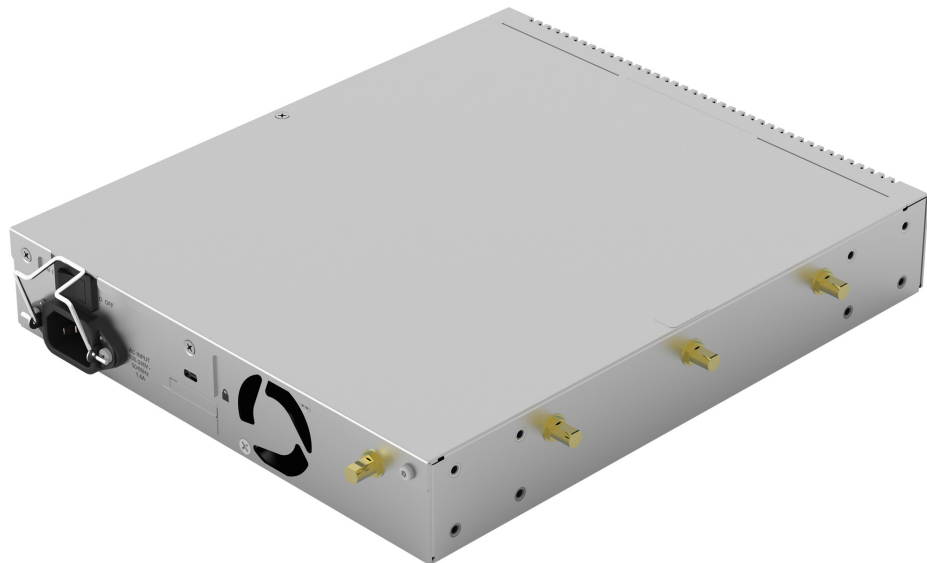

Figure 20. Antenna connectors
Four connectors are available around the outside of the unit to connect the antennas. These connectors are type SMA Jack (F) ST. See Figure 20.